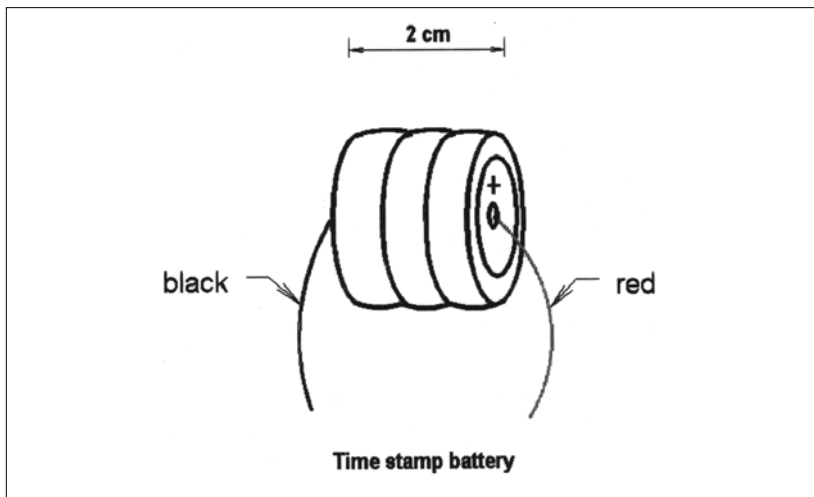
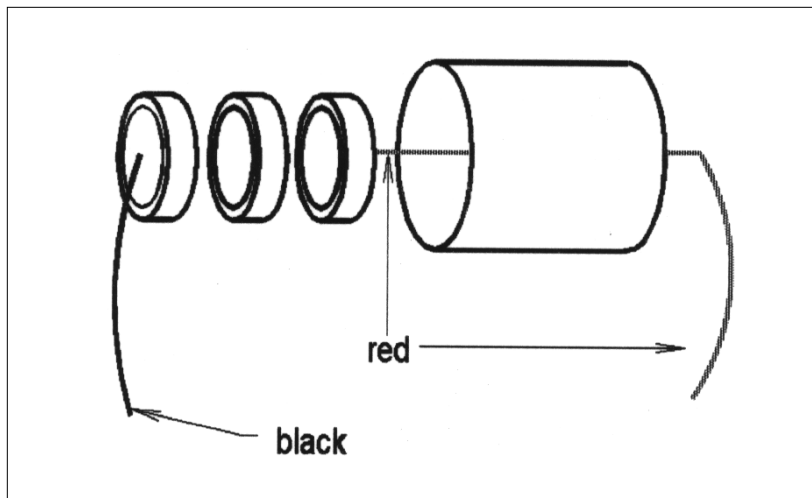

Figure 7—The time stamp battery, located inside the delay switch assembly. It is fastened to the side of the case with double-sided tape.
Figure 8—Batteries arranged in a “series stack.”
**Replacing the time stamp battery**—Two batteries are in the delay switch. The time stamp battery for older delay switches is identified in figure 7. (One version of the delay switch has time stamp batteries with three wires and is not discussed here.) A new battery may be purchased from the manufacturer or one may be constructed. To construct a battery, use three watch-type batteries in a “series stack.” A series stack is three batteries stacked end-to-end, positive (+) to negative (-). Order the batteries with solder tabs and solder a piece of red wire to the positive end of one battery and a piece of black wire to the negative end of another battery. The Olympia Lab units have Panasonic LR-44 batteries. Check the stack voltage and polarity with a voltmeter. Ensure that black is negative and red is positive. The stack must read 4.5 volts. Identify the dead delay switch battery, clip it out, and leave the leads long in the delay switch. Be careful that the loose leads do not touch any circuit elements inside the delay switch. Splice in the new stack and use shrink tubing to insulate the bare wires and the batteries as shown in figure 8.